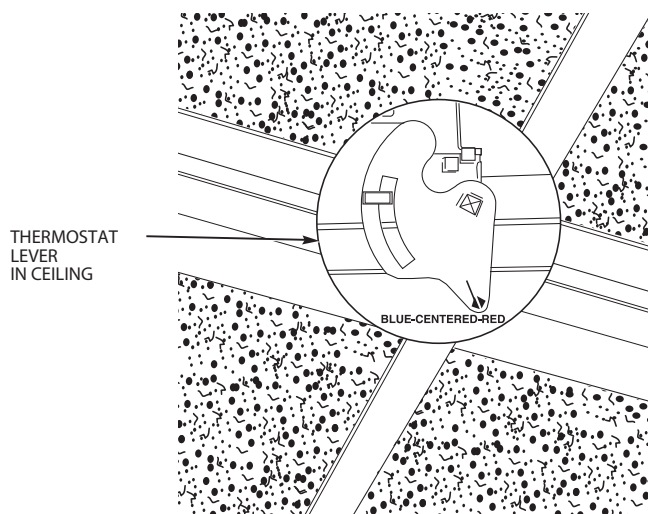

Fig. 42 — Thermostat Level Detail
4. Set thermostat lever at desired setting. See Table 7 and Fig. 42.
1. Master units can be identified by means of thermostat lever extending below diffuser. See Fig 42.